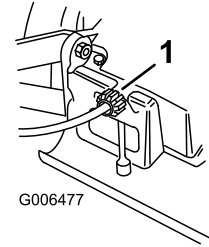

Figure 23
If the mower does not self-propel or has a tendency to creep forward when the blade control bar is **more** than 1-1/2 inches (3.8 cm) from the handle, adjust the wheel drive control knob on the rear of the gear box (Figure 23).
2. Rotate the control knob clockwise a half turn if the mower does not self-propel. If the mower creeps forward, rotate the knob a half turn counterclockwise to loosen the belt (Figure 23).